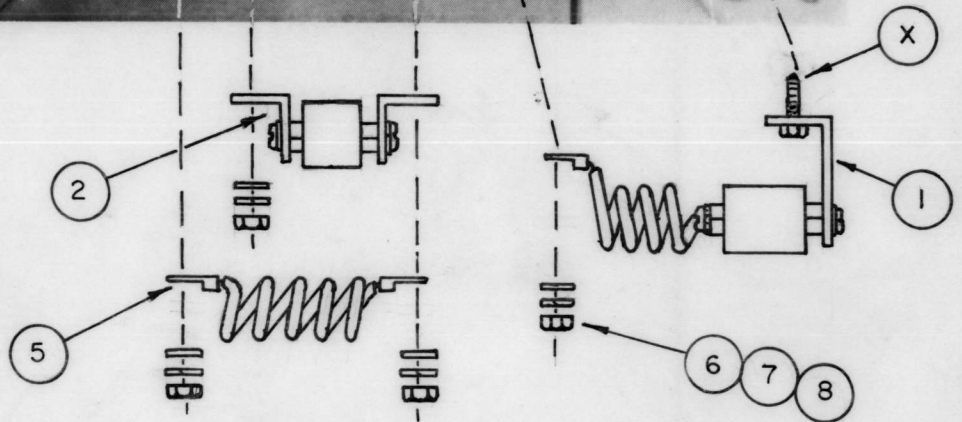

Fig. 2
10. Install IT.1 to directional wattmeter (refer to Fig. 2). It will be necessary to remove bracket off Item 1 to invert 1/4-20 screw (Item X).
11. Refer to Fig. 2 and LD-1373 (output connection diagram). Install Items 2 and 5 to correspond to type of output desired. In any condition, Item 5 will take the place of strap (Item Y). Refer to IT. 17 (A 3481).